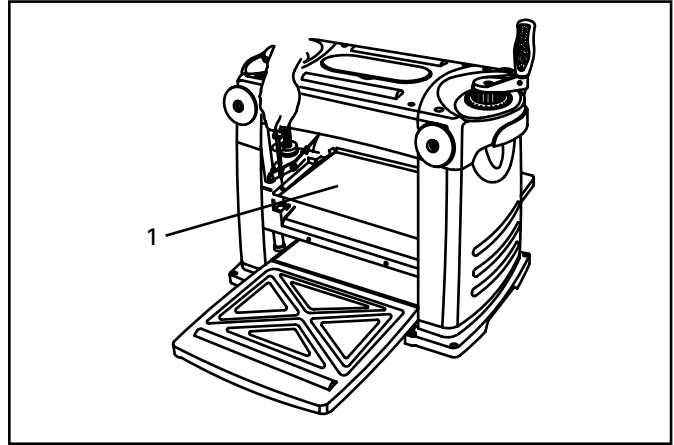

Fig. 13
1. Remove the two screws with a screwdriver, then remove the dust cover. (Fig. 13)
2. Loosen the eight hex-head screws (1) with supplied wrench.
3. Press the arbor lock latch and turn the cutterhead until exposing two hex bolts (1).
2. Remove all screws to remove the dust hood and dust cover (1) (Fig. 13).